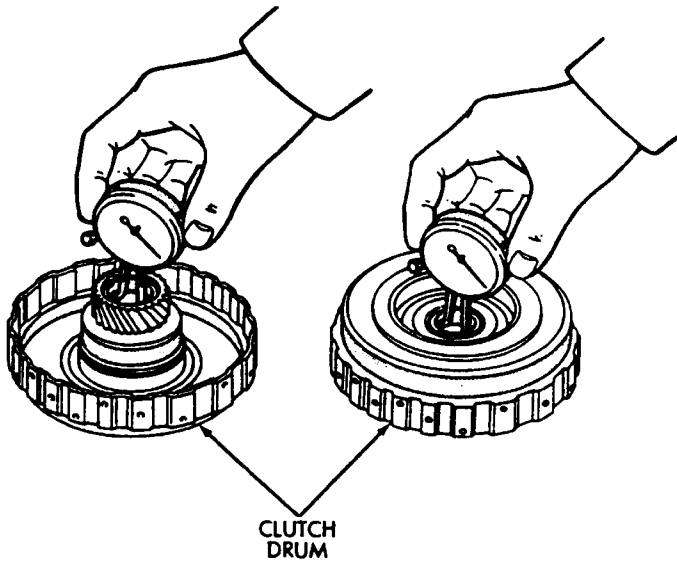

Fig. 18 Checking Clutch Drum Bushings
(20) Check inside diameter of clutch drum bushings with bore gauge (Fig. 18). Maximum inside diameter is 27.11 mm (1.0673 in). Replace drum if bushing inside diameter is greater than specified.